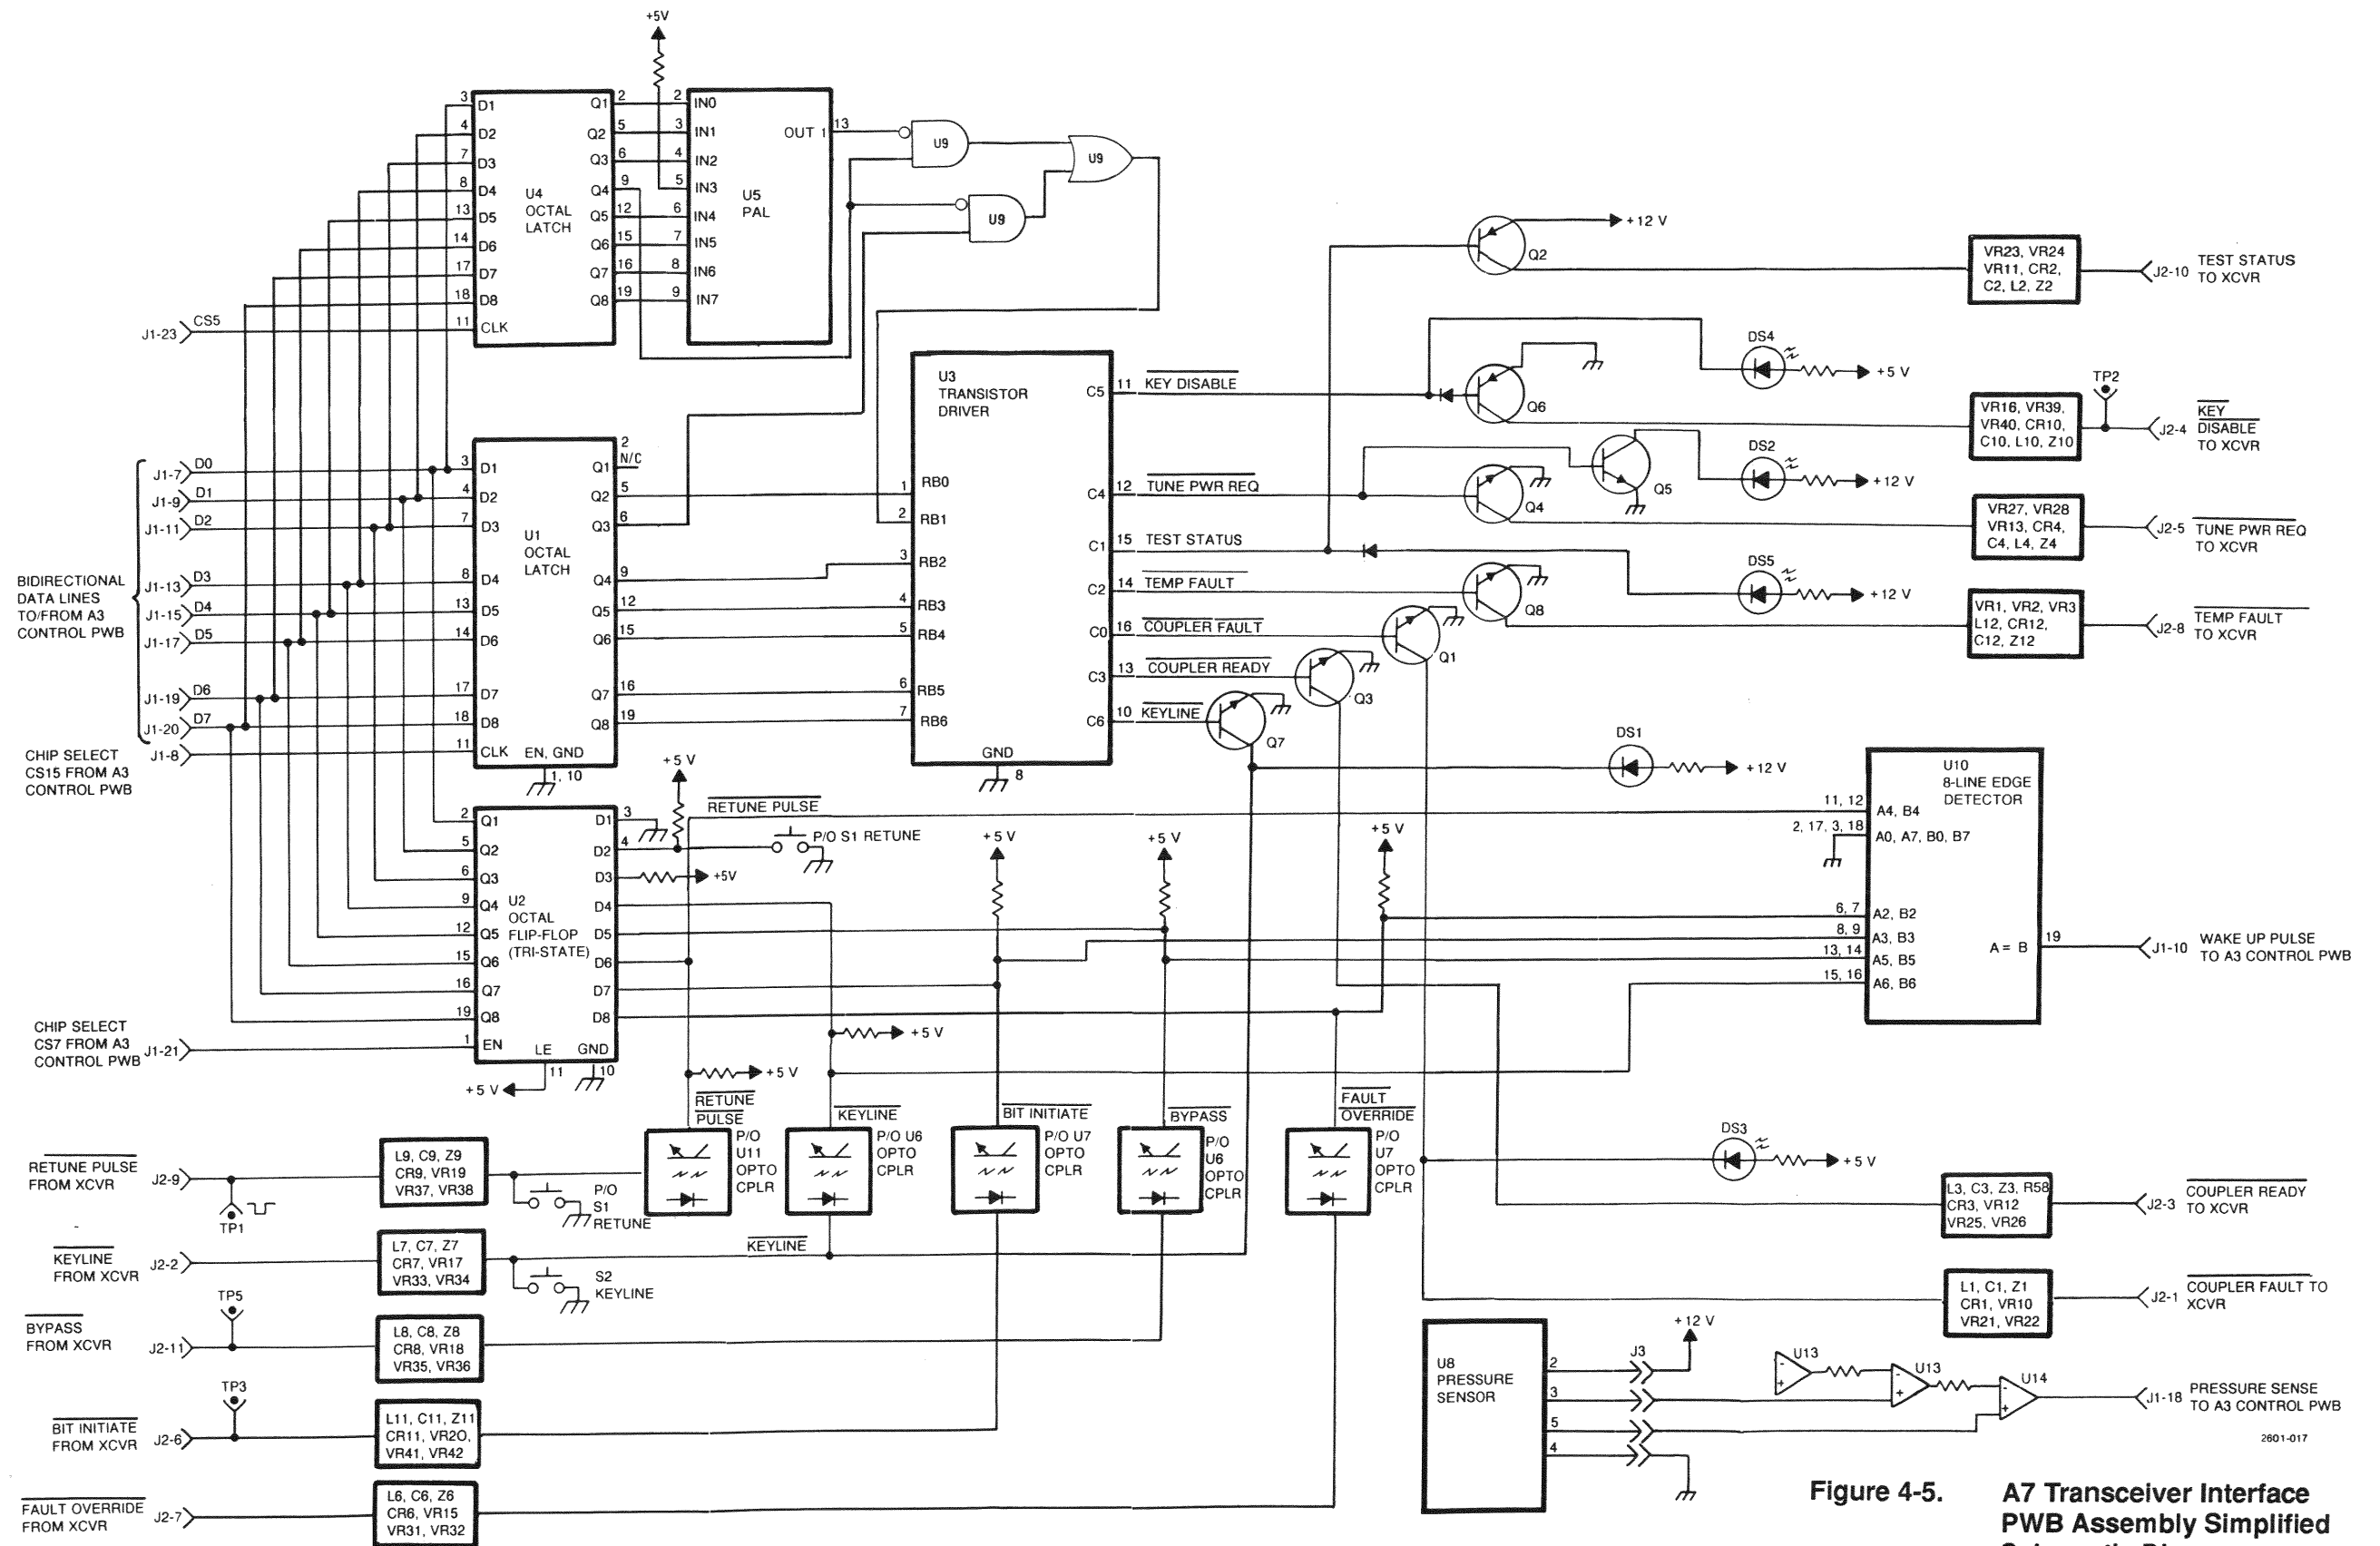

Figure 4-5. A7 Transceiver Interface PWB Assembly Simplified Schematic Diagram
4.3.5 A7 Transceiver Interface PWB Assembly (see figure 4-5)